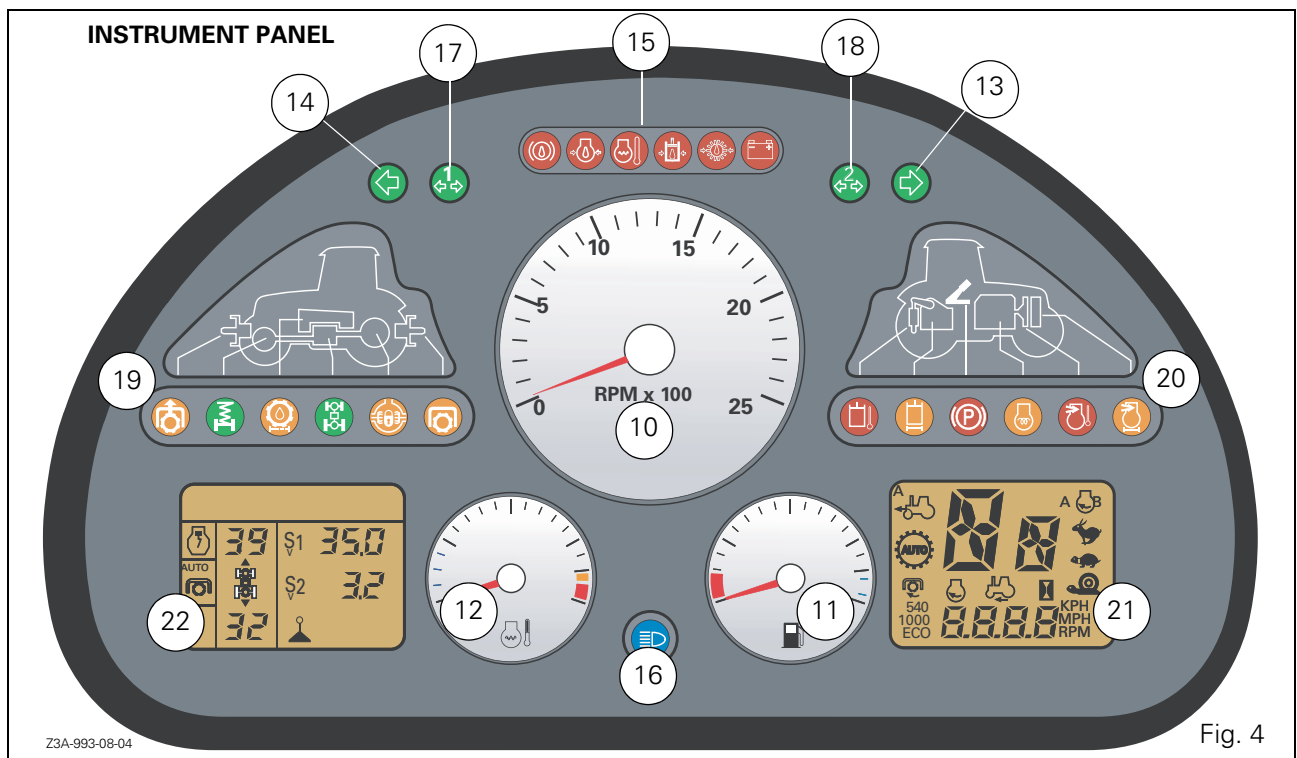

Fig. 4
5. Parameter display selector switch (21 Fig. 4).
Instrument panel (Fig. 4)